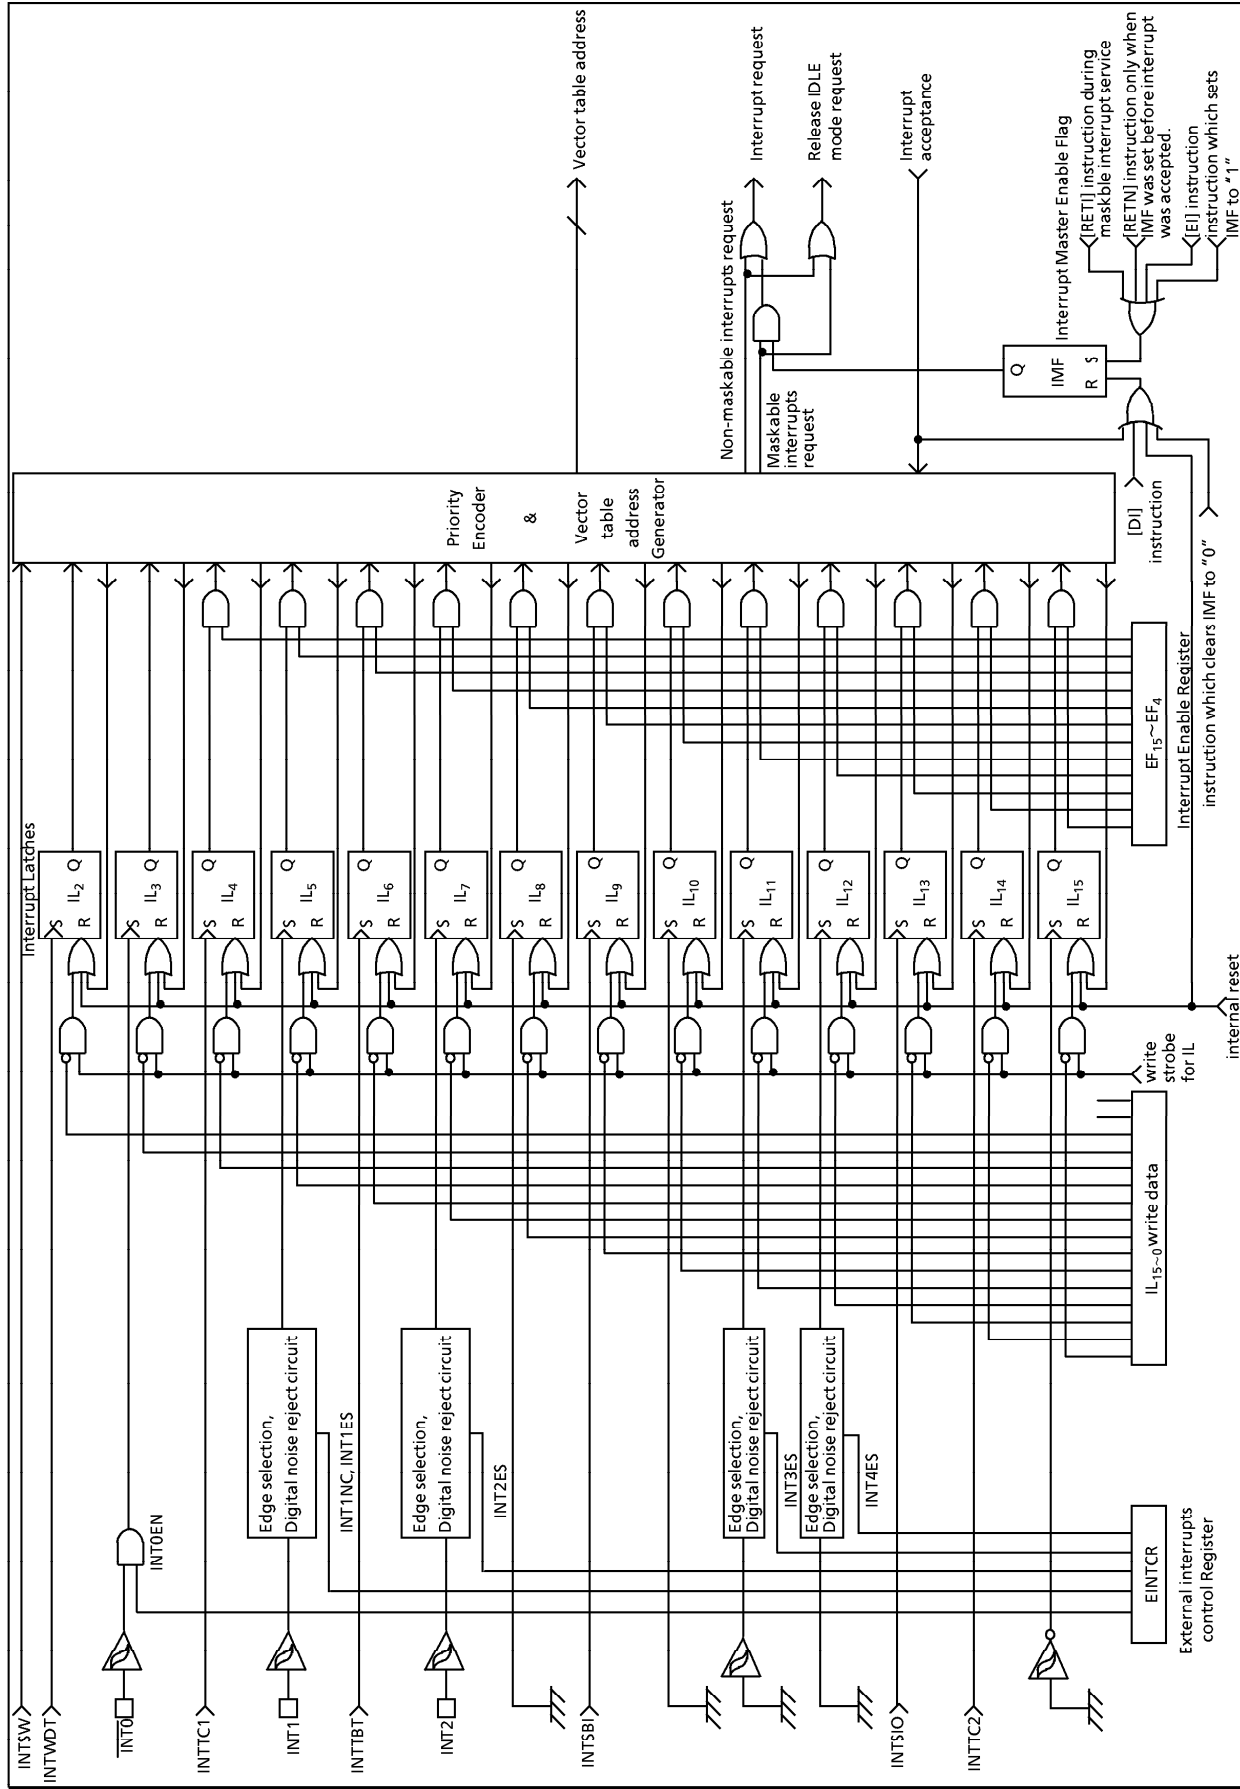

Figure 1-18. Interrupt Controller Block Diagram
The interrupt latch is set to "1" when an interrupt request is generated and requests the CPU to accept the interrupt. The acceptance of maskable interrupts can be selectively enabled and disabled by the program using the interrupt master enable flag (IMF) and the individual interrupt enable flags (EF). When two or more interrupts are generated simultaneously, the interrupt is accepted in the highest priority order as determined by the hardware. Figure 1-18 shows the interrupt controller.